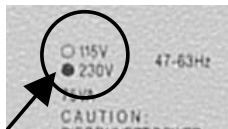

Fig. 4 Indication of the input voltage
- 2 Indication of the input voltage (see Fig. 4)
The Spectro Photometer K-2501 operates with 115 or 230 V AC of 47-63 Hz. The setting is done by the manufacturer on customers request. The standard setting is 230 V. If there is on any reasons the need of a change, please contact our service department. The actual setting is indicated on the rear panel of the instrument (Fig. 4).